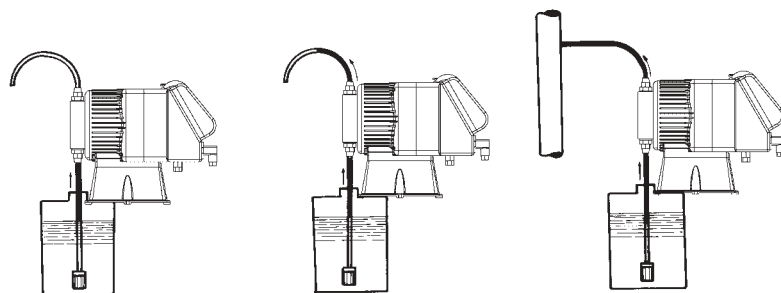

Fig. 8
f. Priming the pump: if the pump is supplied with a discharge valve, connect the outlet piping and follow the sequence shown in fig.8.